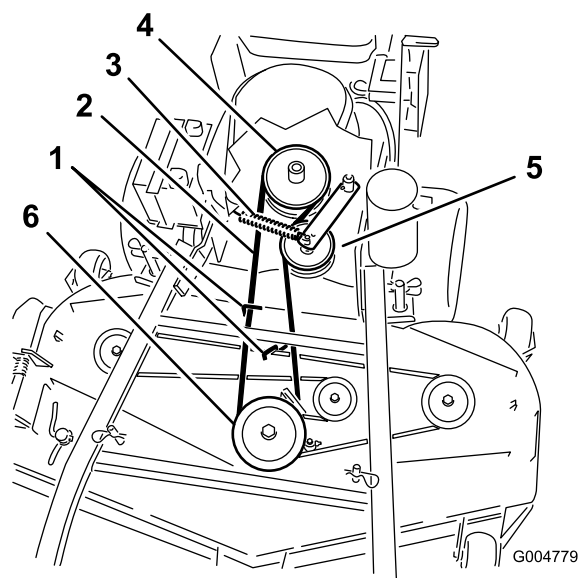
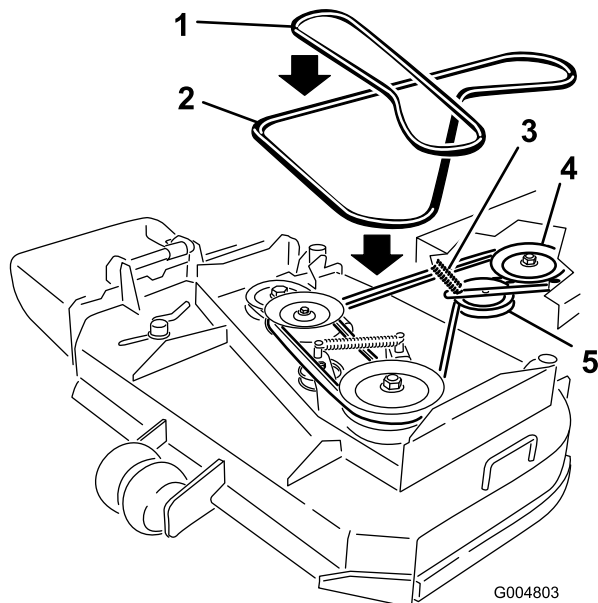

Figure 51
Figure 52
6. Roll the belt off of the center pulley on the mower deck (Figure 51). Refer to Figure 52 to roll the belt off left pulley for a 36 inch mower deck. Use caution when removing the belt as tension will increase because of the spring loaded idler pulley.
7. Remove the belt from the engine pulley and the spring loaded idler pulley (Figure 51). Refer to Figure 52 to remove the belt from the 36 inch mower deck pulleys.
8. Install the new belt onto the engine pulley and spring loaded idler pulley (Figure 51).
9. Roll the belt onto the center pulley on the mower deck (Figure 51). Use caution when install the belt as tension will increase because of the spring loaded idler pulley. Refer to Figure 52 to roll the new belt onto the left pulley for a 36 inch mower deck.
11. Adjust the belt guide an 1/8 inch (3 mm) from the belt for 40, 48 and 52 inch mower decks (Figure 51).